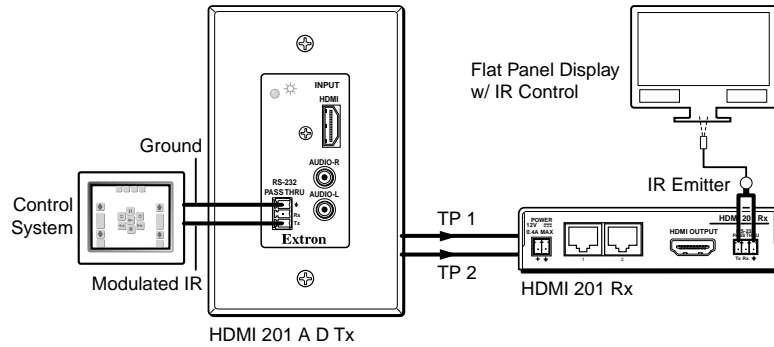

Figure 29. Installation Routing Modulated IR
Figure 29 shows an installation in which the Tx/Rx pair sends a modulated infrared (IR) signal across the link. On the Tx side, control system is connected to the Tx pin (the modulated IR signal) and the Gnd (signal ground) on the transmitter. An IR emitter is connected to the Tx and Gnd receiver output.